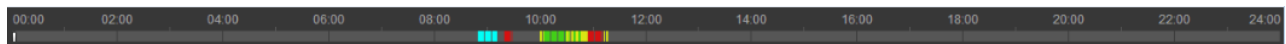

Figure 4-5
Step 2. Click on certain time on progress bar, playback starts from this time. See Figure 4-5.